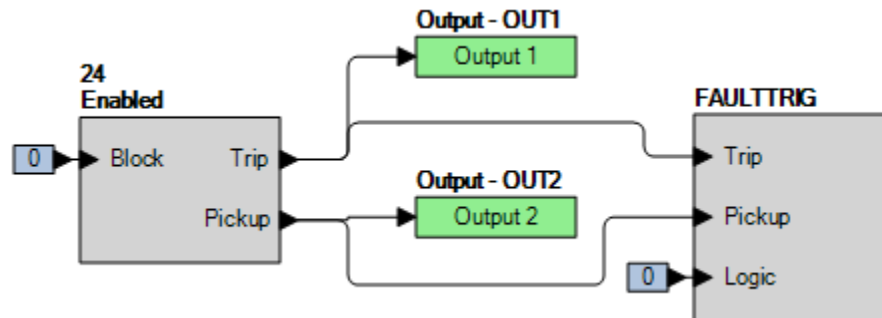

Figure 55-1. BESTlogic_{Plus} Settings
Step 2: Use BESTCOMSP_{Plus} to configure the BESTlogic_{Plus} programmable logic shown in Figure 55-1.